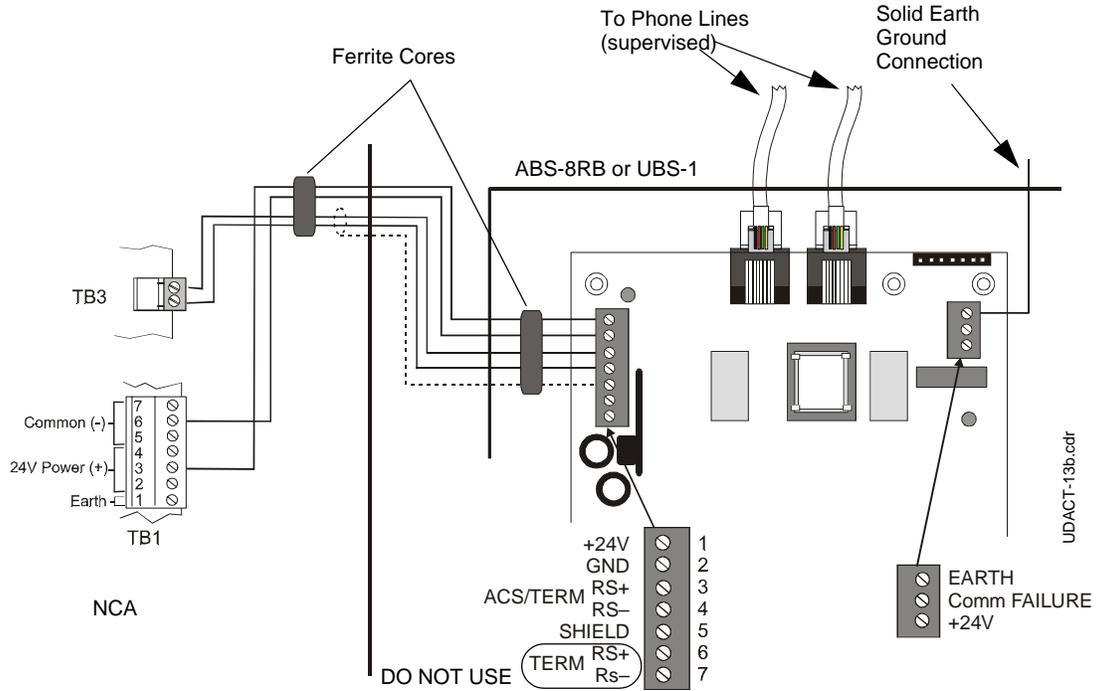
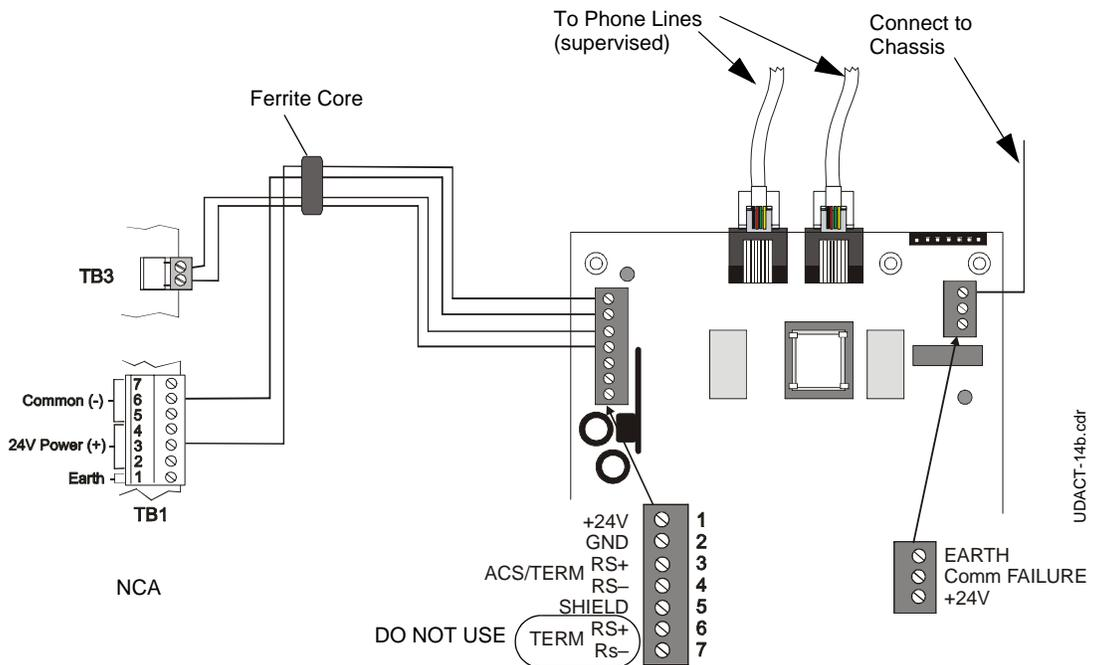

Figure G.1 UDACT and NCA in Separate Cabinets
Figure G.2 UDACT and NCA in the Same Cabinet
Refer to Figure G.1 and Figure G.2 on page 101.
2. Recommended wire is 12 AWG (3.25mm²) to 18 AWG (0.75mm²), twisted pair, shielded cable. Connect only one end of shield: a) shield may be connected to cabinet (earth ground) at fire alarm panel, or b) shield may be connected to TB1 Terminal 5 (Shield) at UDACT as shown in Figure G.1.